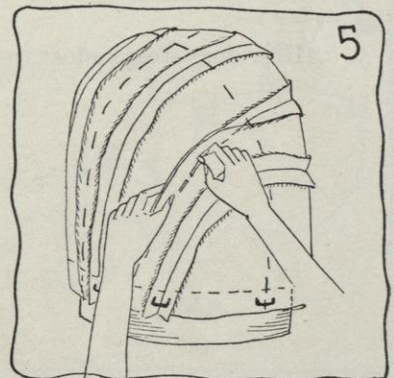

FIG. 5.
- c. Put basted crown, with seams outside, over the crown block of the desired headsize, with front-to-back bastings coming directly over the front-to-back of the block, and the side-to-side bastings coming directly over the side-to-side of the block (see Figure 5).
- d. Put a staple at the extreme end of each seam and at direct front, back, and sides of crown, sticking it into the headsize lift of the block (see Figure 5). The crown should fit the crown block, with no fullness whatsoever. Show it to your teacher to be sure that it is correct.
- (1) Pin alterations in each seam, if they are needed (see Figure 5). Do not remove fullness in one section only, for it will make the crown uneven.
- (2) Baste these alterations.
- (3) Try crown on block again.